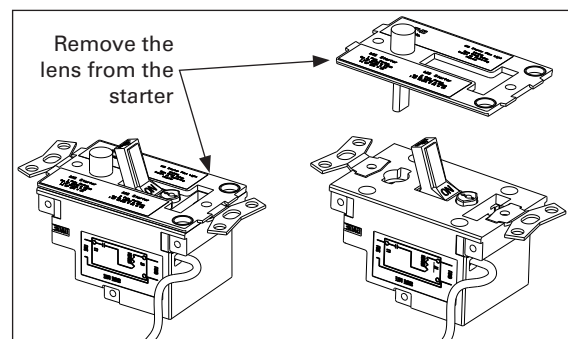

Figure 3. Pilot Light Removal
5. Remove the pilot light from the motor starter as shown in Figure 3.